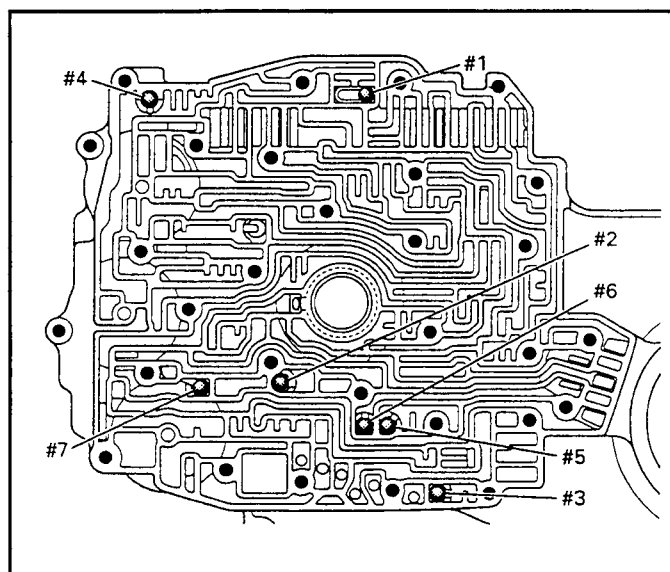

Figure 171
13. Install the seven checkballs into channel plate in the proper locations as shown in Figure 171. Notice that there is one pocket that does not get a checkball.